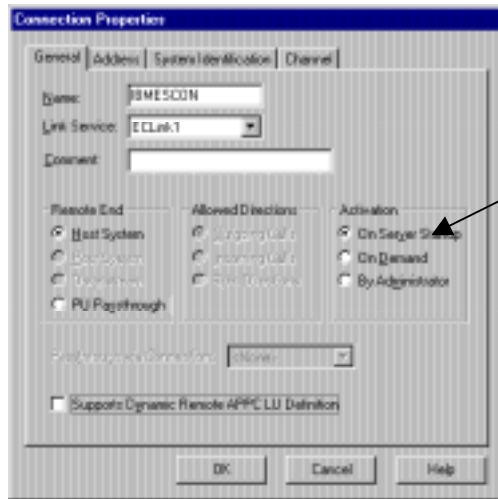

Figure 16-17. Activate at Startup
4. Verify the activation setting for the connection (Figure 16-17). ESCON connections should be set to activate on server startup. They should never be set to activate on demand.